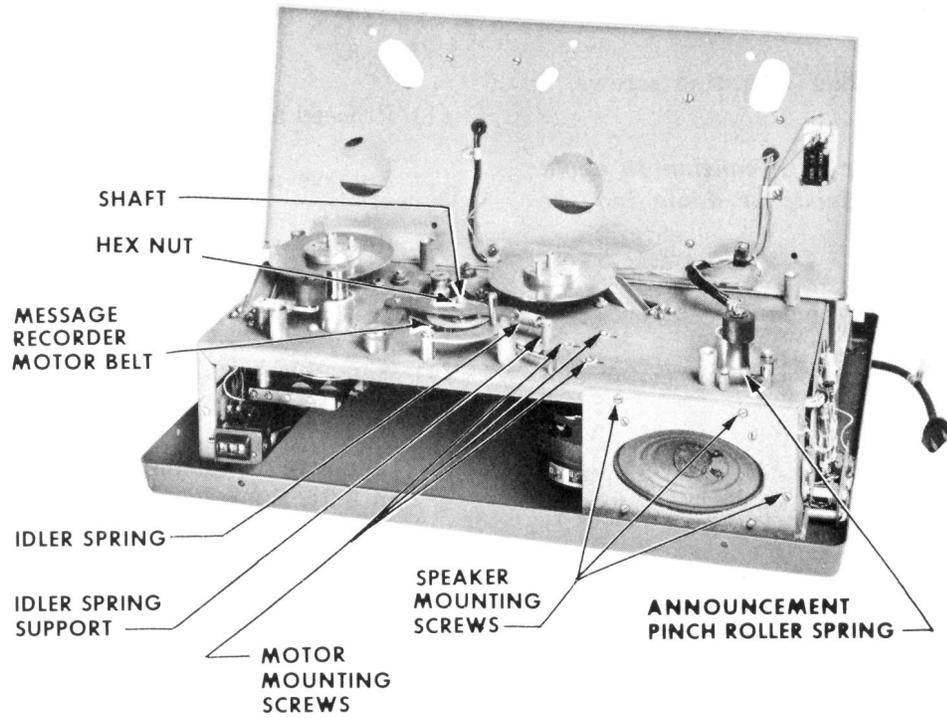

Fig. 6 - KS-16923, List 5 Recorder, Deckplate Raised
8. BELT REPLACEMENT (FIG. 6 AND 7)
- 8.02** *To replace announcement capstan (out message) belt (Fig. 6 and 7):*